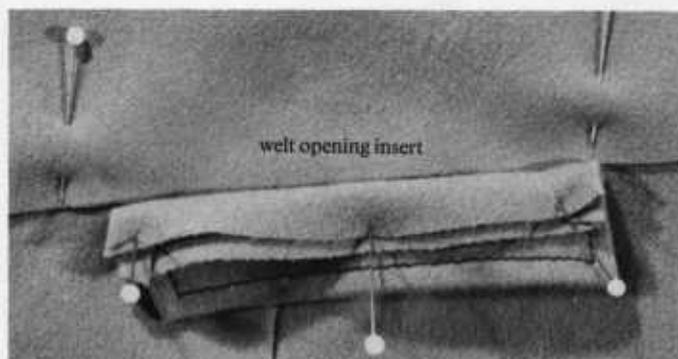

figure 38
- Center the fashion fabric welt opening insert with right sides together along the lower welt stitching line. The lower edge of the welt opening insert should fit tightly against the first stitching line. Pin in place. Pin both welt seam allowances forward out of the way (*figure 38*).